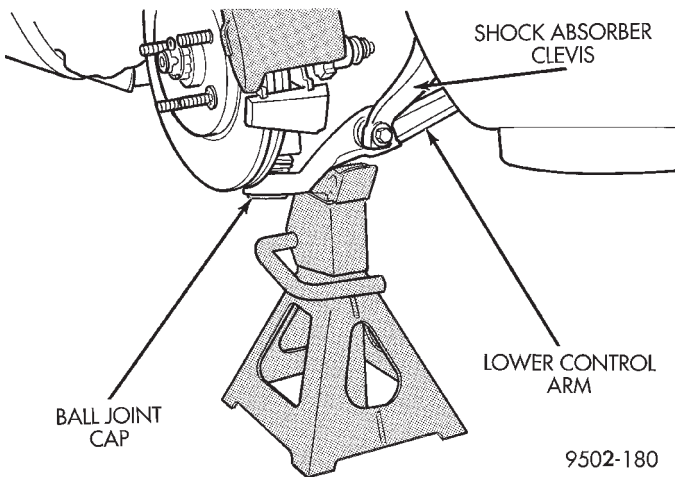

Fig. 27 Lower Control Arm Correctly Supported By Jack Stand
CAUTION: When supporting the lower control arm with jack stand, do not position jack stand under the ball joint cap on the lower control arm. Position jack stand in area of lower control arm shown in (Fig. 27).
(16) Lower vehicle to the ground with a jack stand positioned under the lower control arm (Fig. 27). Continue to lower vehicle so the total weight of the vehicle is supported by the jack stand and lower control arm.